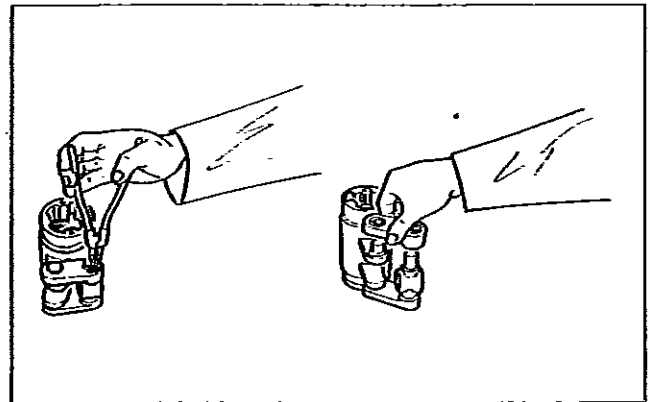

Fig. 16. Dismantling the linkage
- Remove lock rings (36) and support rings (37). See Fig. 16.
- Remove connection arms (4) and check the condition of the bearings (20, 21).